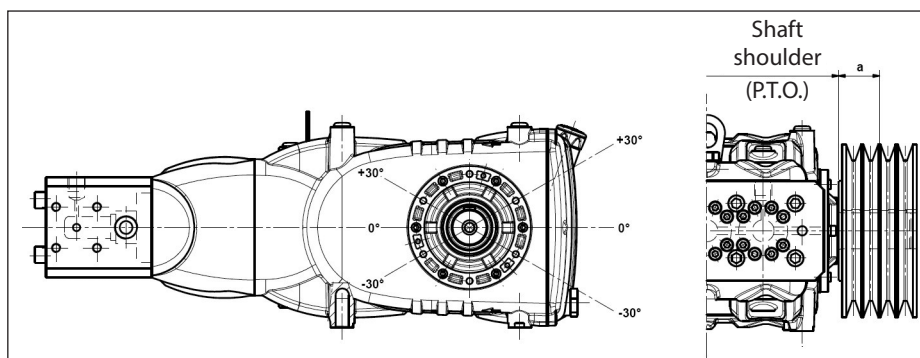

Fig. 11
The radial load on the shaft must not exceed 7500 N (value necessary for Layout definition). The transmission is considered adequate if the load is applied to a maximum distance $a=40$ mm from the shaft shoulder (P.T.O) as shown in Fig. 11.
- b) Use high performance belts – for example **XPB** instead of **SPB** – as a lower quantity of belts for the same transmitted power may be necessary and a consequent shorter resulting distance compared to the shaft shoulder (P.T.O.) “a” of Fig. 11.
- e) Follow the direction of the belt pull as shown in Fig. 11 for other needs, contact our **Technical** or **Customer Service Department**.